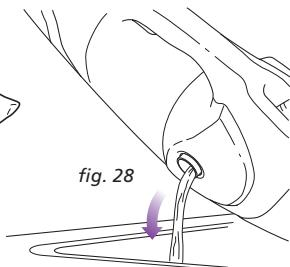

fig. 28
- 5 Empty the water tank before storage. Remove the water tank cap and empty the tank over a sink. Replace the water cap. (fig. 28)